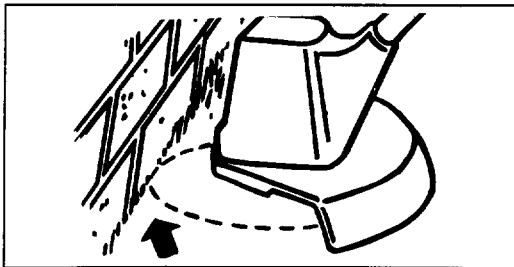

Figure 13
7. **DO NOT FORCE THE UNIT.** Allow the very *tip* of the nylon line to do the cutting (especially along walls) (Fig. 13). Cutting with more than the tip will reduce cutting efficiency and overload the motor.